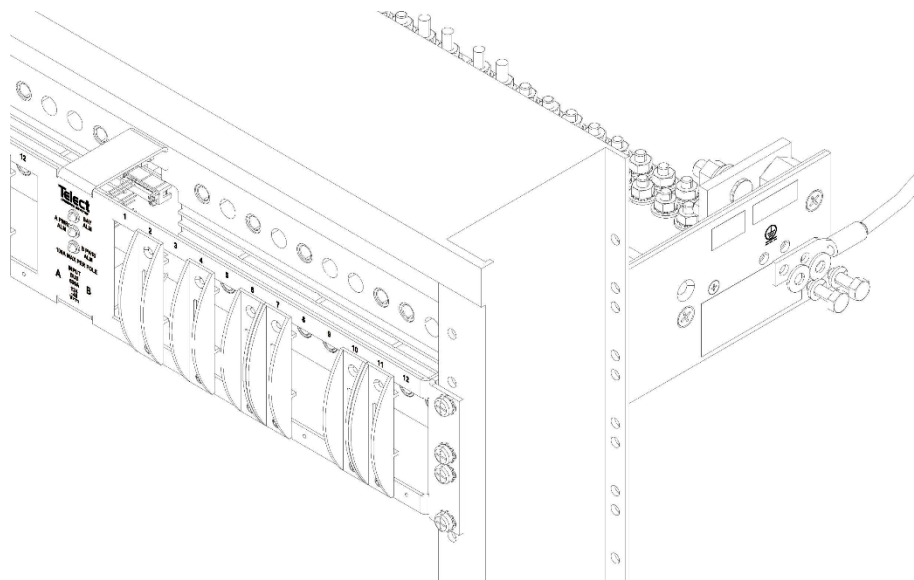

Fig. 7: Ground lug connection
6. If required, lightly coat antioxidant on lug and grounding surface on side of panel. Connect the lug using 1/4-20 bolts, flat washers and split washers provided, as shown in Fig. 7. Tighten the bolt to 50 in/lb. (5.5 N•m).